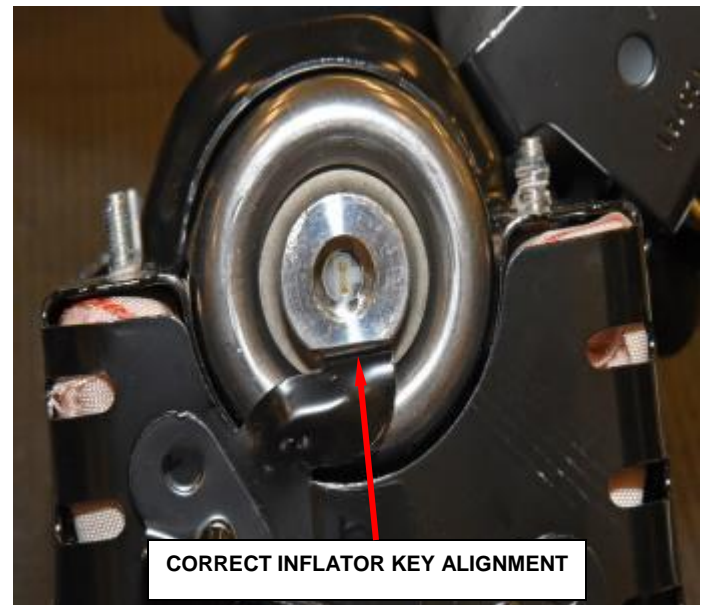

Figure 46 – Check for Inflator Key Alignment
- k. Ensure that the inflator’s key is still lined up with the housing’s key (Figure 46).